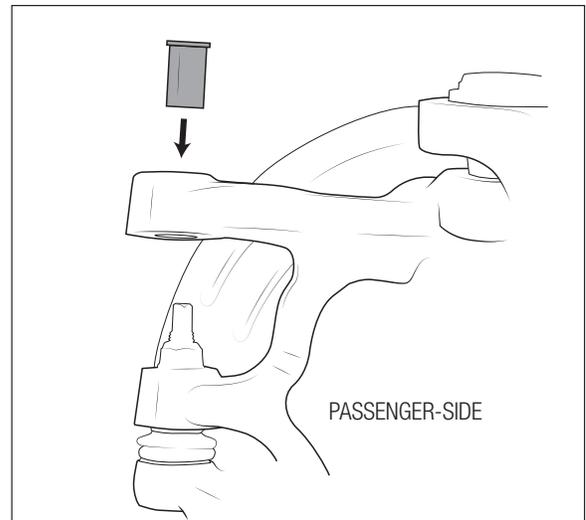

Figure 33
19. Drill the hole in the knuckle to 7/8" for the new drag link tapered bushing and insert supplied tapered bushing (fig. 33).